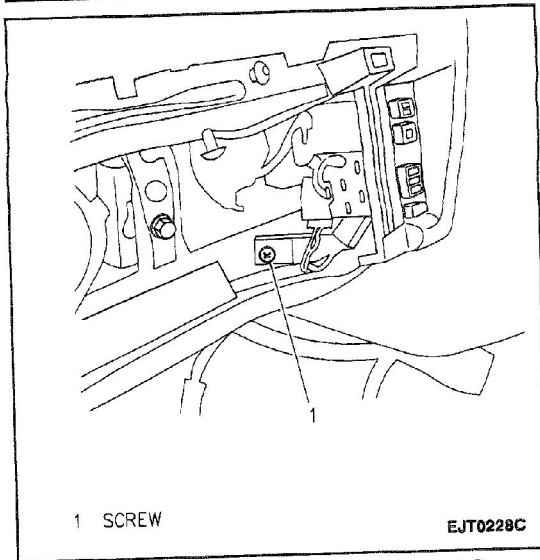

Figure 16—Instrument Panel Left Side Support Screw
28. One screw holding left side of the instrument panel support beam to vehicle (Figure 16).